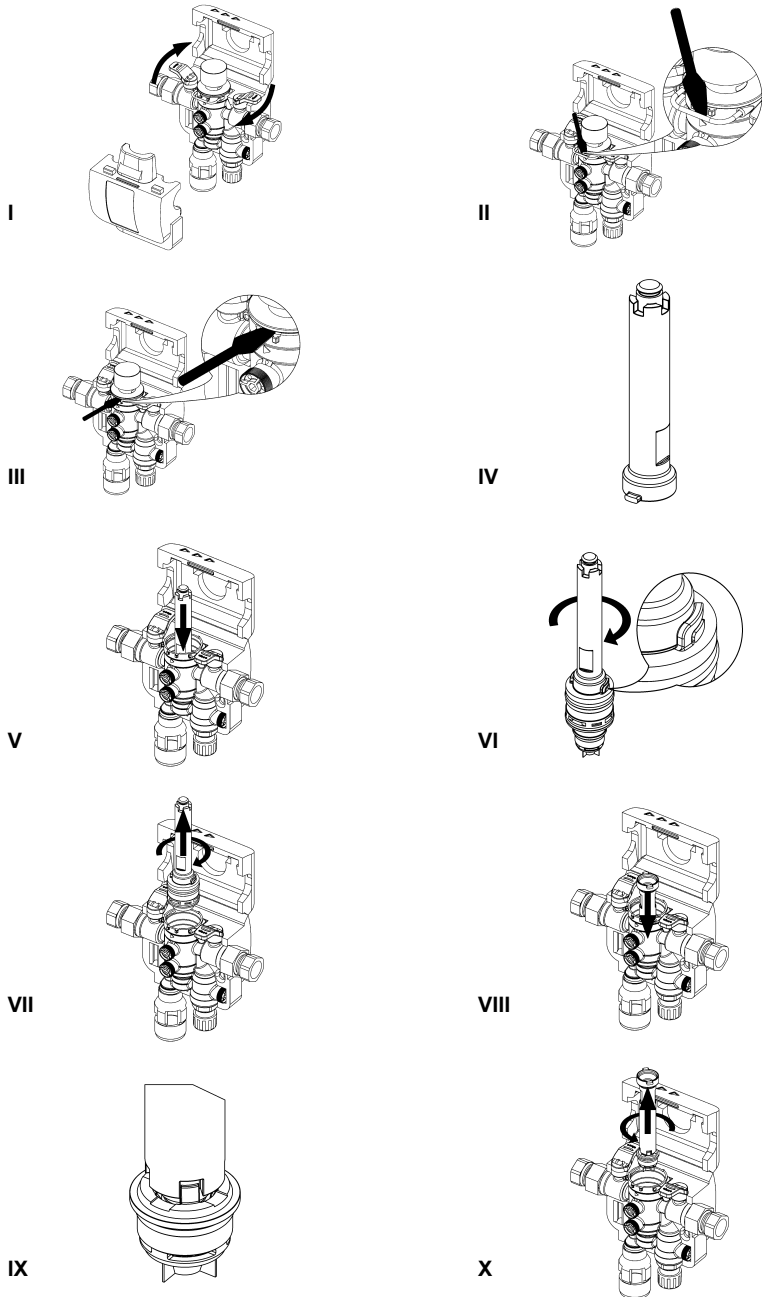

Fig. 6: Replacement of the pipe disconnecter cartridge
- / Fold the casing cover upwards and remove the front casing half and close both shut-off valves (see fig. 6 I).
- / Using a screwdriver, lever out the clip that retains the pressure gauge (see fig. 6 II).
- / Then lever the pressure gauge out using the screwdriver (see fig. 6 III).
- / A special tool (see fig. 6 IV) is necessary for removal (see chapter 12 "ACCESSORIES").
- / Place the tool from above on to the pipe disconnecter cartridge and turn in a clockwise direction (see fig. 6 V).
- / Ensure that both pegs of the tool engage in the clips of the pipe disconnecter cartridge (see fig. 6 VI).
- / Screw out the pipe disconnecter cartridge while applying a light turning pressure and clean with clear drinking water as necessary (see fig. 6 VII).
- / Turn the tool over and position from above on the backflow preventer (see fig. 6 VIII).
- / In doing so, ensure that the openings engage with the pegs of the backflow preventer (see fig. 6 IX).
- / Remove the backflow preventer by rotating counterclockwise (see fig. 6 X).